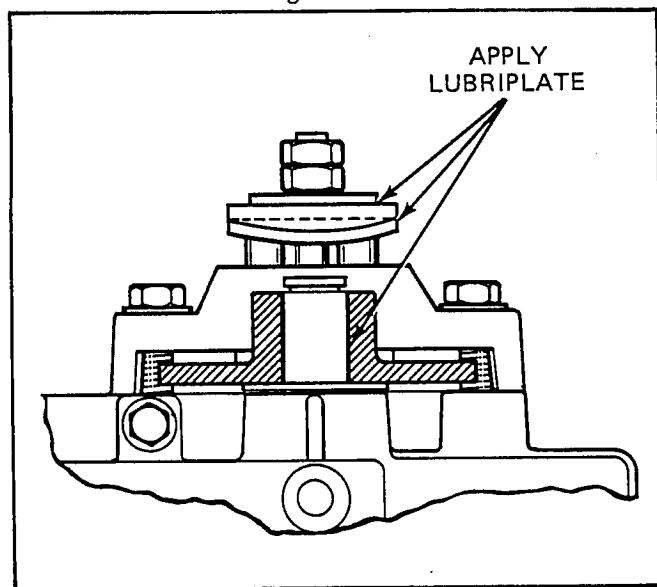

Figure 2-56
11. Apply a light film of lubriplate to the inside of lever portion which contacts pins (Figure 2-56); also to outside of lever which contacts flat washer, and between shaft O.D. and bore of brake disc. Brake pads and brake disc must be free of grease and oil.